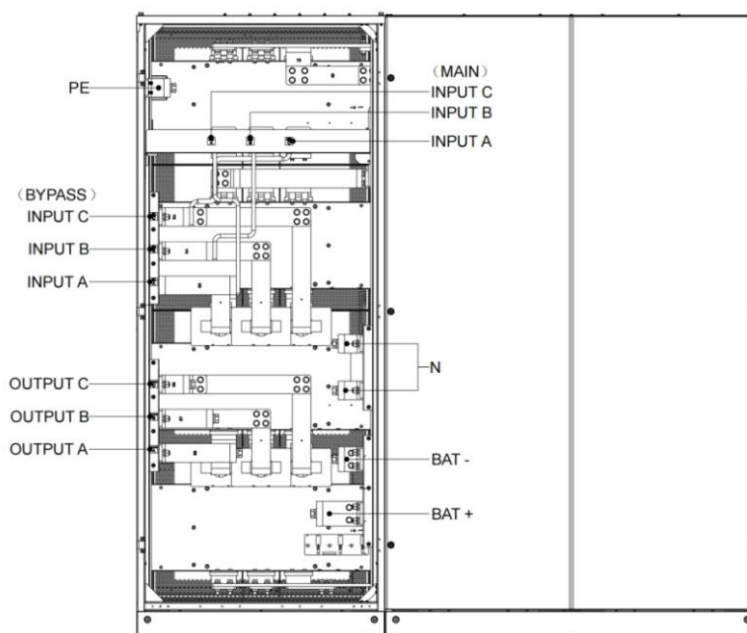

Figure 3-54 Terminal Layout Diagram
Step 2: Open the rear door of the cabinet and remove the protective cover. The input and output terminals, battery terminals, and grounding terminals are visible. The layout of the terminals is shown in Figure 3-54;
Step 4: According to Figure 3-54, connect the AC input cable to the UPS input terminals (Main Input); connect the output load cable to the UPS output terminals (Output);